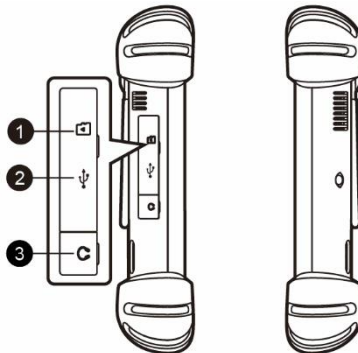

Figure 2-3 MaxiSys Tablet Left Side
4. USB Port (it cannot be used at the same time with the Mini USB Port in Figure 2-3 MaxiSys Tablet Left Side)